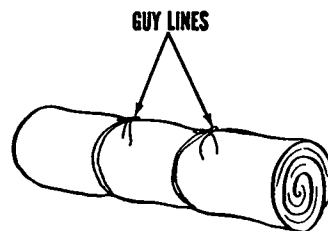

Figure 47. Steps in folding and rolling tent, mountain, 2-man.
(1) Untie ventilator and tunnel entrance tie tapes from guy lines.
(2) Remove guy and eave lines from pins.
(3) Remove pins from ground.
(4) Untie guy lines from webbing loops at front and rear peaks of tent.
(5) Unfasten adapters from poles and remove poles from tent, and then disassemble poles.
e. Folding and Rolling (fig. 47).
(1) Place tent so that bottom is flat on ground. Push ventilators and tunnel entrances inside tent (1).
(2) With one man at each end of the tent, make an accordion fold by folding one side of tent inward at center and folding the other side over so that it covers bottom of tent (2).